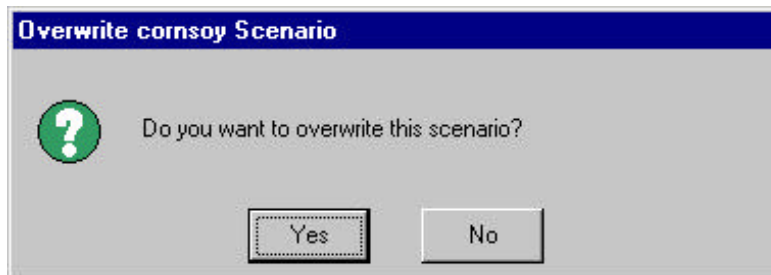

Figure 12.66
- d. If the current management operations were loaded from a scenario, a message box is displayed (Figure 12.66) that gives the user the option to update the original scenario or to save the scenario under another name.